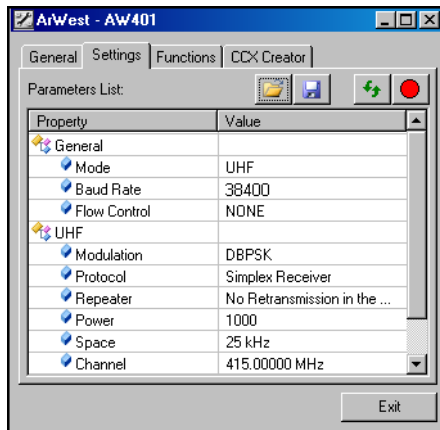

Figure 3-7. UHF Modem Settings
- Click on the **Settings** tab to open a list of settings of the modem (see Figure 3-7 on page 3-6). The settings list varies depending on the modem model and possibly the firmware version. The settings can be read-only (marked by the ) or changeable (marked by the ) icon).
3. Click on the **Settings** tab to open a list of settings of the modem (see Figure 3-7 on page 3-6). The settings list varies depending on the modem model and possibly the firmware version.